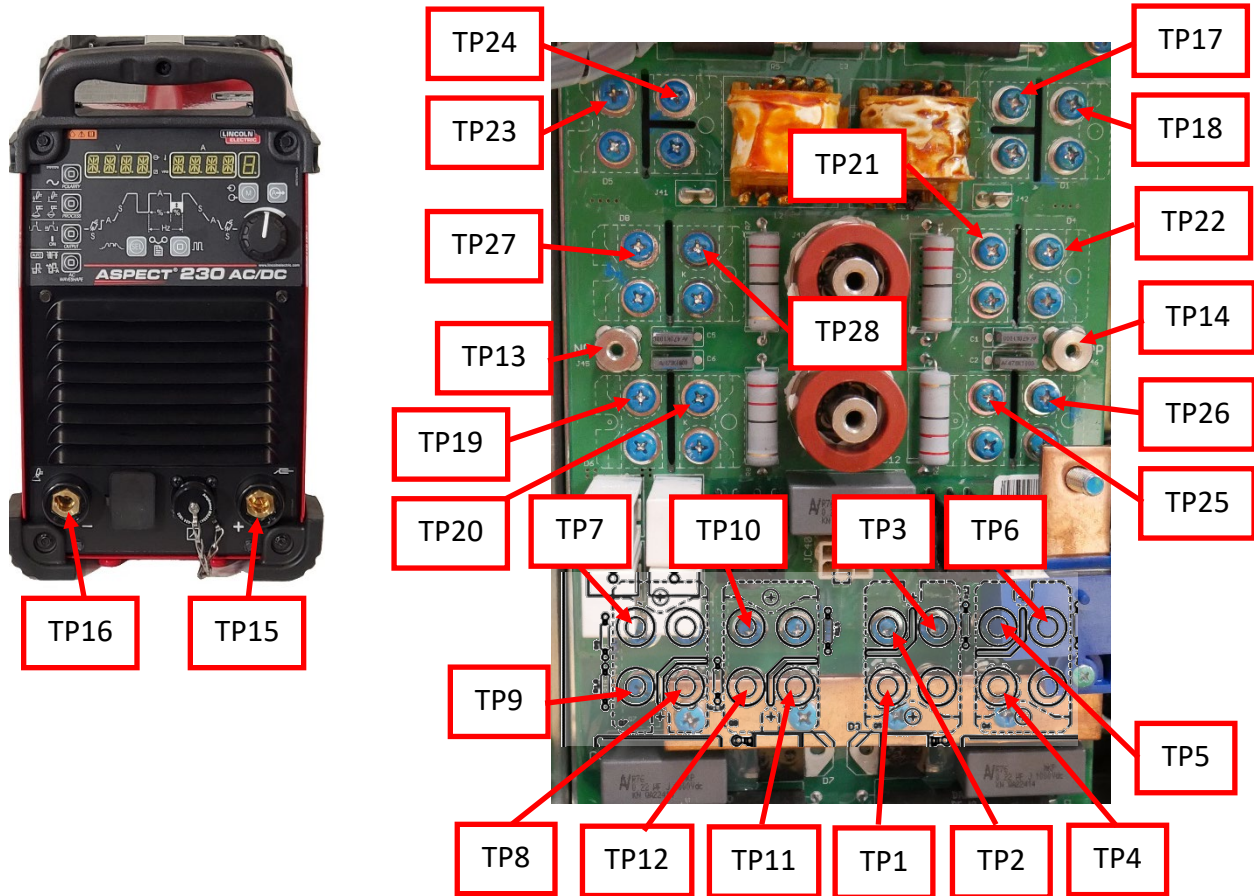

Figure F.2
A.3. Perform the static measurements in Test Table 1, refer to Figure F.2 for test point locations. **NOTE: DO NOT DISCONNECT WIRES FROM THE OUTPUT POWER BOARD.**